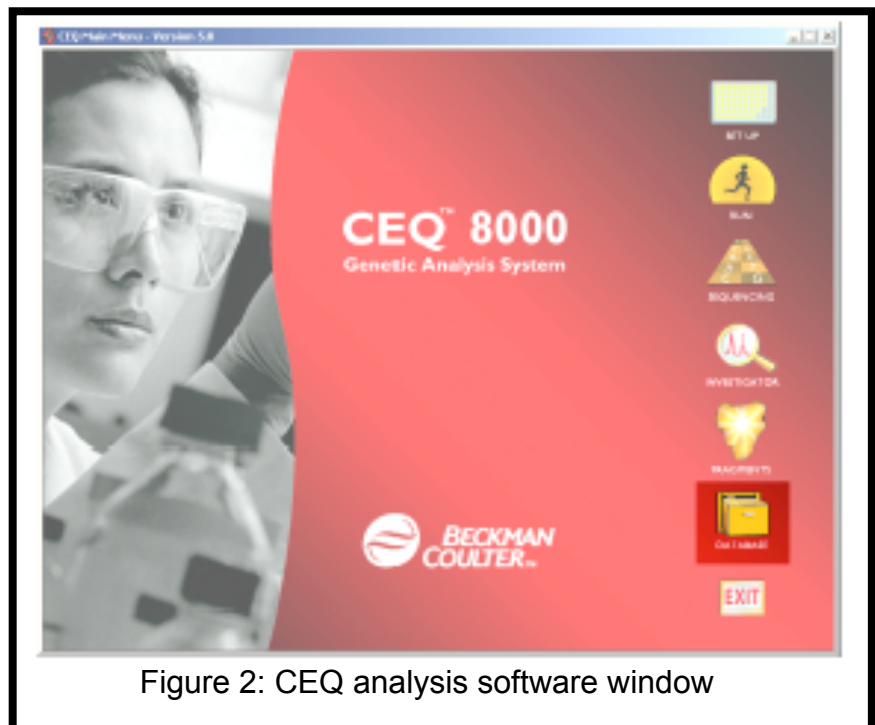

Figure 2: CEQ analysis software window
1. From the CEQ analysis software menu, select the **DATABASE** module icon (Highlighted in Figure 2)